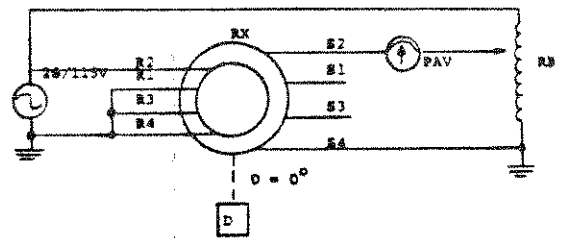

Figure 7-19. Transformation Ratio Test (RX)
- Set up equipment as shown in figure 7-19.